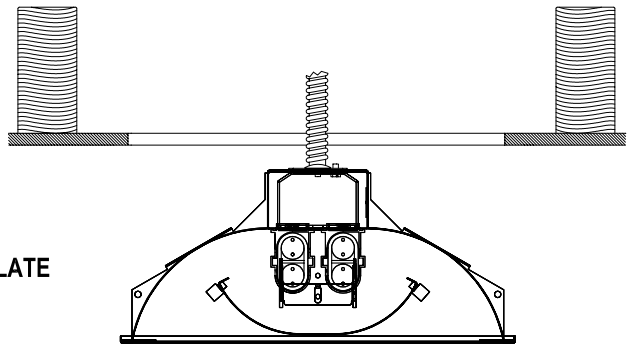

FIG. 2
2. CONNECT POWER TO LUMINAIRE VIA ACCESS PLATE LOCATED ON TOP OF HOUSING. (FIG. 2)